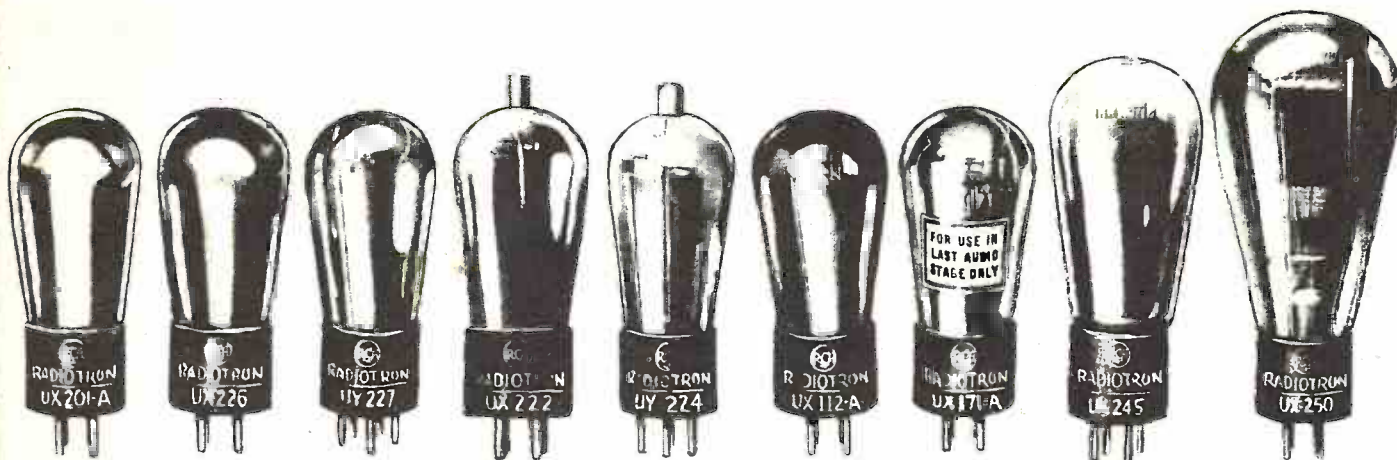

Fig. 41 - Vacuum tubes most generally used in modern receivers.
(8) Screen-Grid Tubes. In addition to the regular filament, grid, and plate elements of the ordinary tube, the screen-grid tube employs a fourth element, which is a metallic network interposed between the grid and plate, and used mainly as an electrostatic shield for shielding the plate from the grid and preventing electrostatic feed-back. This allows much greater amplification in radio-frequency amplifiers without oscillation. Neutralization is therefore unnecessary. A positive potential of from 70 to 90 volts is applied to the screen. Although this type of tube is used mainly in radio-frequency amplifiers, it may be employed as a detector or a resistance- or impedance-coupled audio amplifier; or as a "space-charge" tube in an audio amplifier. In this case the inner grid is connected to a positive potential of about $22\frac{1}{2}$ volts, to neutralize the space charge within the tube. The screen is employed as the control-grid. In radio-frequency amplifiers, the value of the positive voltage applied to the screen, determines the amplification, and this effect is made use of as a volume control. The screen-grid tube is made in the heater type, the type '24, in which a standard 5-prong base is used and the control grid is connected to a terminal at the top of the tube, as illustrated in Fig. 41. The type '22 is also a screen-grid tube, but is not the heater type.